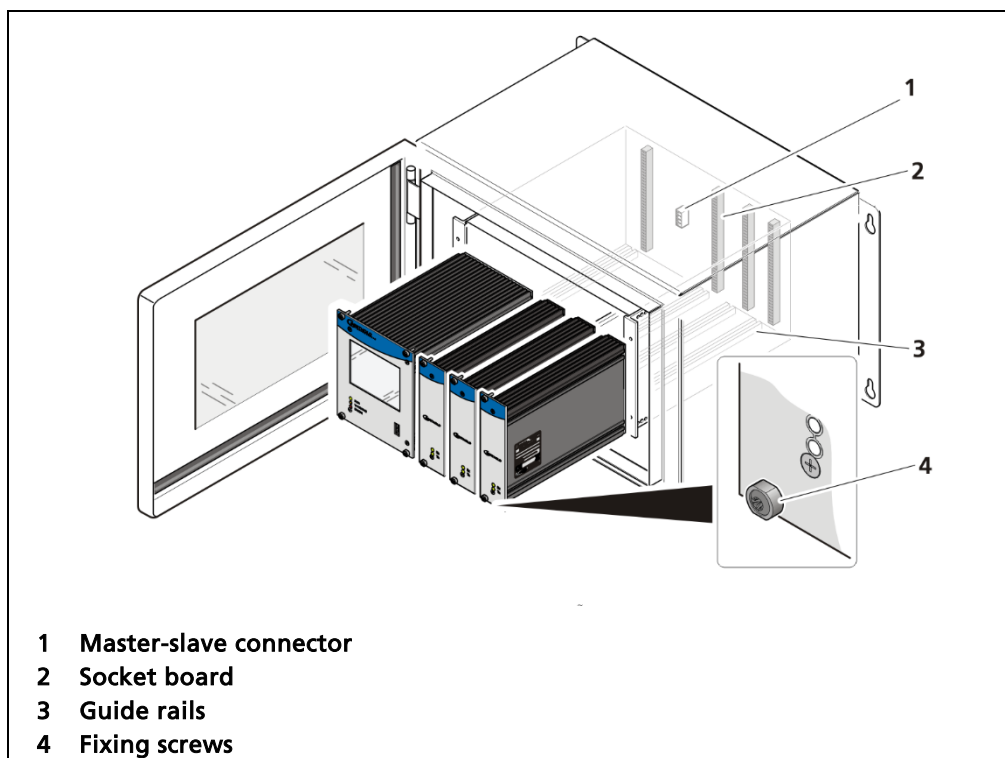

Fig. 11 Installation of the modules (Example: 1 master, 3 slave)
The master EVUs / slave modules must be secured against pulling out by fixing screws (Fig. 11, item 4).
1. Set modules into the guide rails and push it gently until the plug connector of the module (Fig. 11, item 2) is inserted into the socket board.
2. Tighten all fixing screws (Fig. 11, item 4).